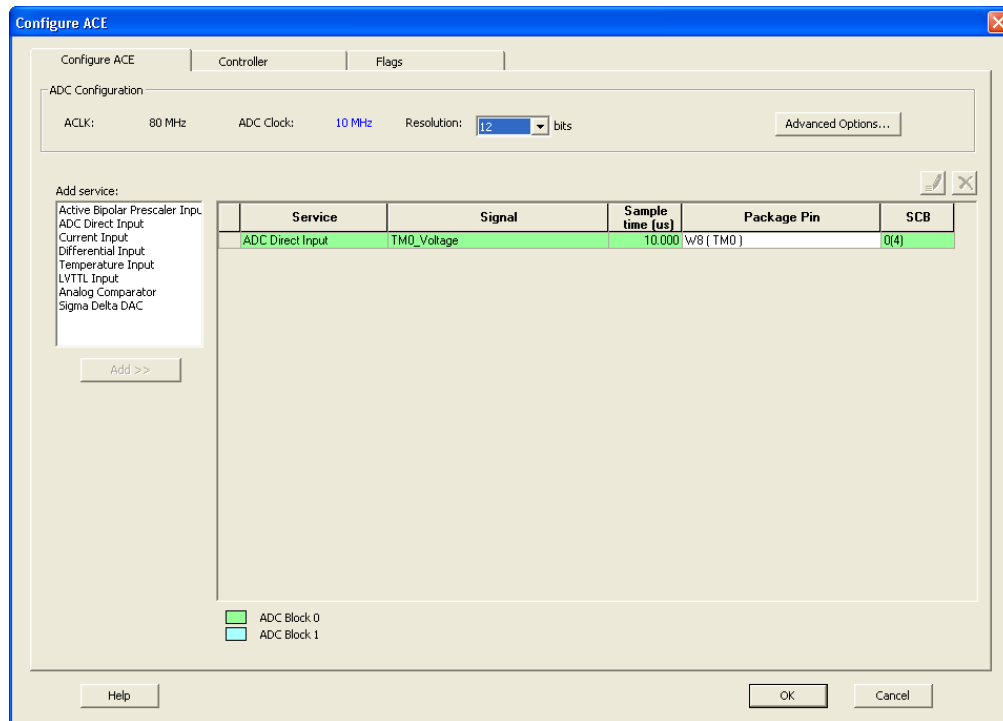

Figure 9 The Configure ACE Tab
5. The **Configure ACE** tab is displayed as shown in Figure 9.